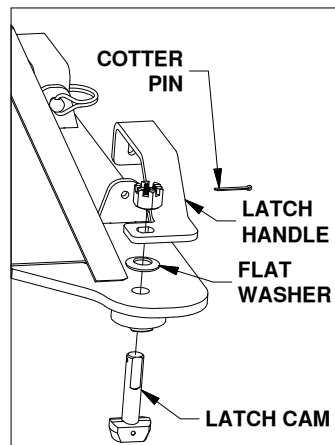

FIGURE C3: List of latch parts.
3. **Adjust the tension in the latch handle**, for parts list and visual guide refer to Figures C3 and C4.